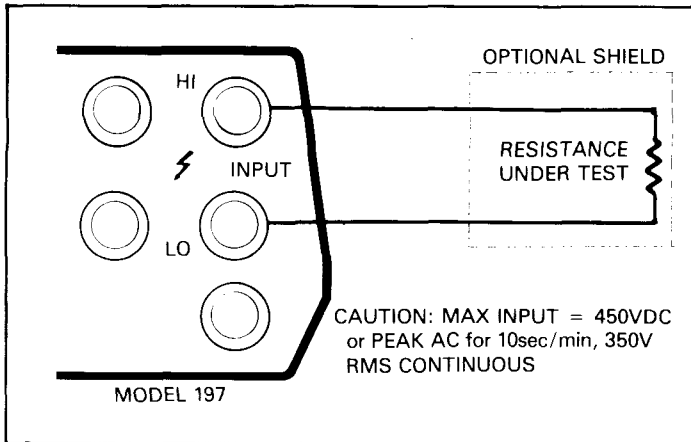
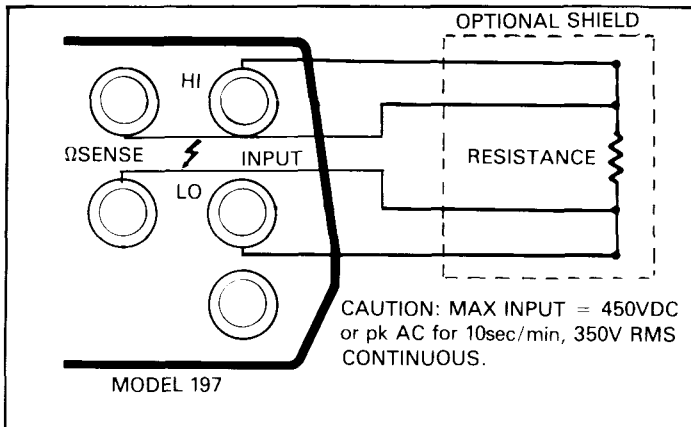

Figure 2-4. Two Terminal Resistance Measurement
Figure 2-5. Four Terminal Resistance Measurement
5. For 2-wire measurements connect the instrument as shown in Figure 2-4. For 4-wire measurements, use the connections shown in Figure 2-5.